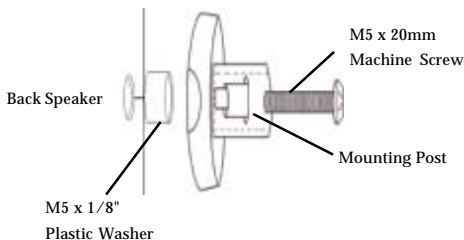

Figure 1
1. Most satellite speakers will require the use of the M5 x 20mm machine screw used in combination with M5 x 1/8" plastic washer. The plastic washer is used as a spacer between the threaded insert and the post, see **Figure 1** below. It is critical the plastic washer is used correctly.